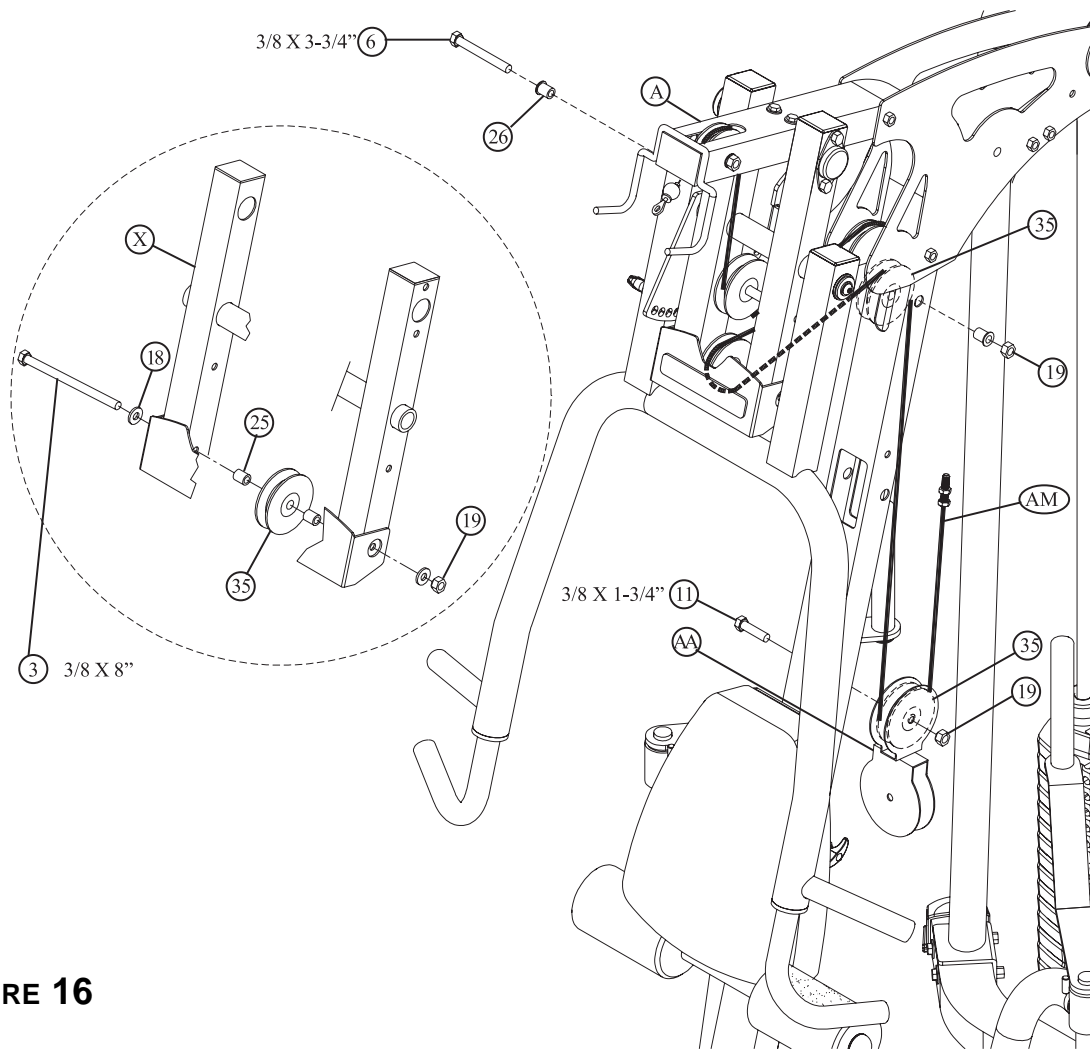

**FIGURE 15**
- Route the LAT CABLE (AM) through the PRESS ARM SUPPORT FRAME (X) and assemble one 3-1/2" PULLEY (35) to the FRAME PRESS ARM SUPPORT FRAME (X) using one 3/8 X 8" BOLT (3), two 3/8" WASHERS (18), two PULLEY GUARD SPACERS (39) and one 3/8" SILVER LOCK NUT (19). See FIGURE 15.
- Route the LAT CABLE (AM) around one 3-1/2" PULLEY (35) and assemble the PULLEY to the LEFT (D) and RIGHT (E) BOOM PLATES using one 3/8 X 3-3/4" BOLT (6), two 3/8 X 1" SPACERS (24) and one 3/8" SILVER LOCK NUT (19). See FIGURE 15.